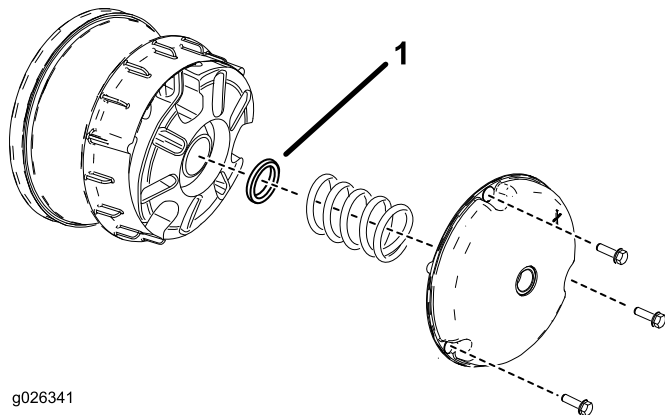
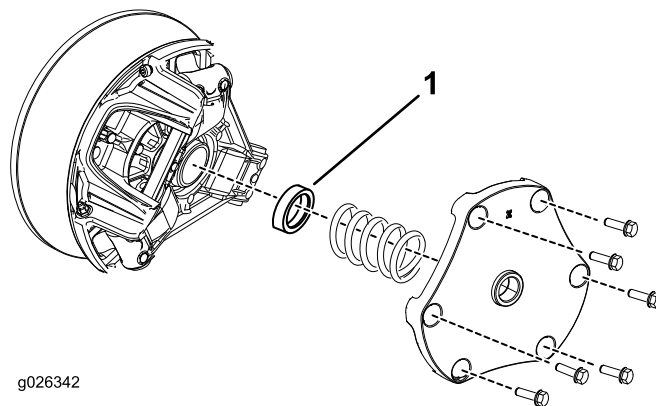

Figure 12
Figure 13
1. Remove the bolts securing the primary clutch cover as shown in Figure 12 and Figure 13.
2. Remove the spring and discard the spacer (refer to Figure 12 and Figure 13)